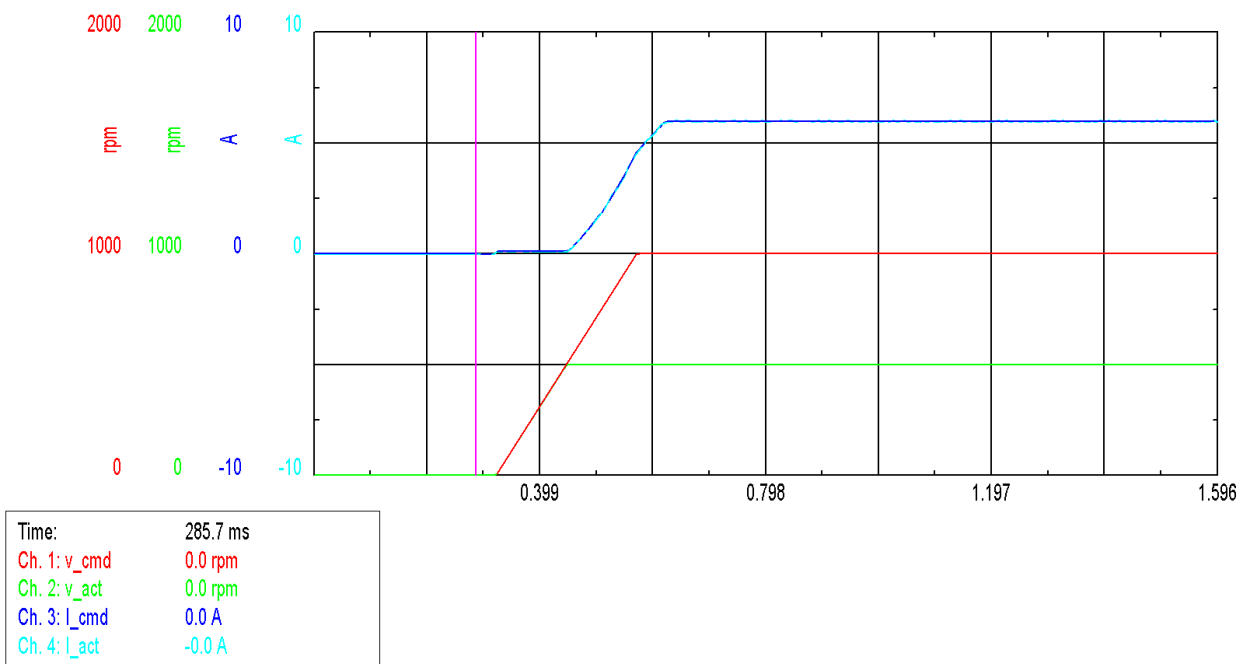
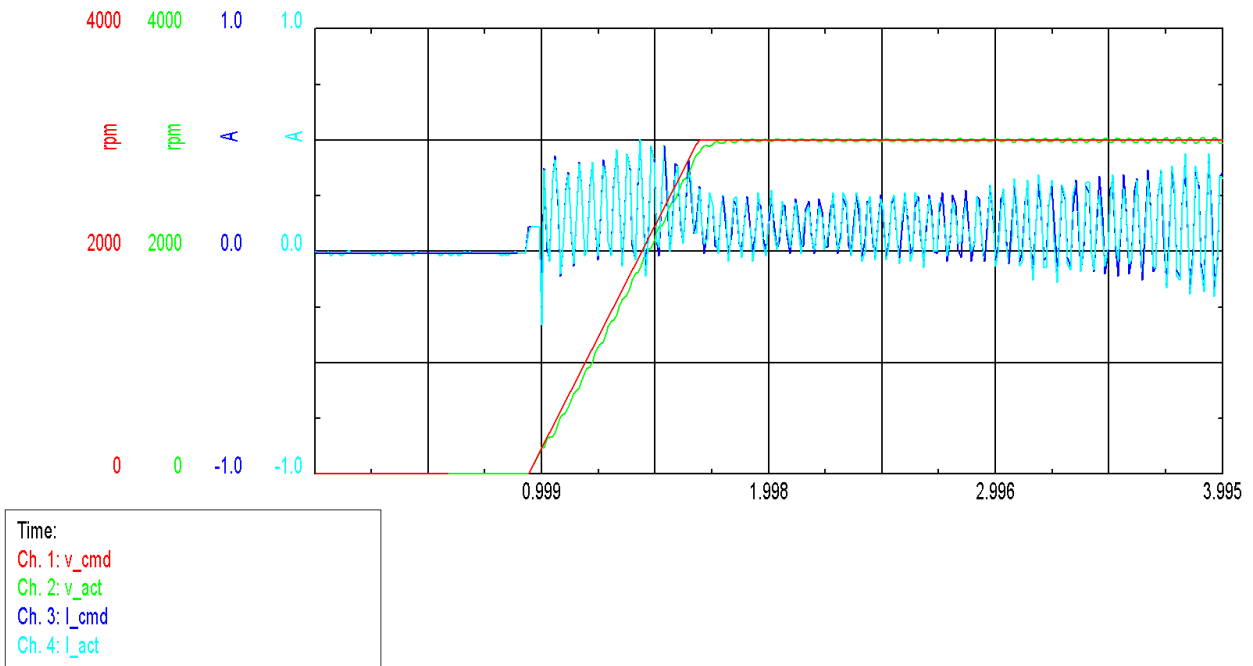
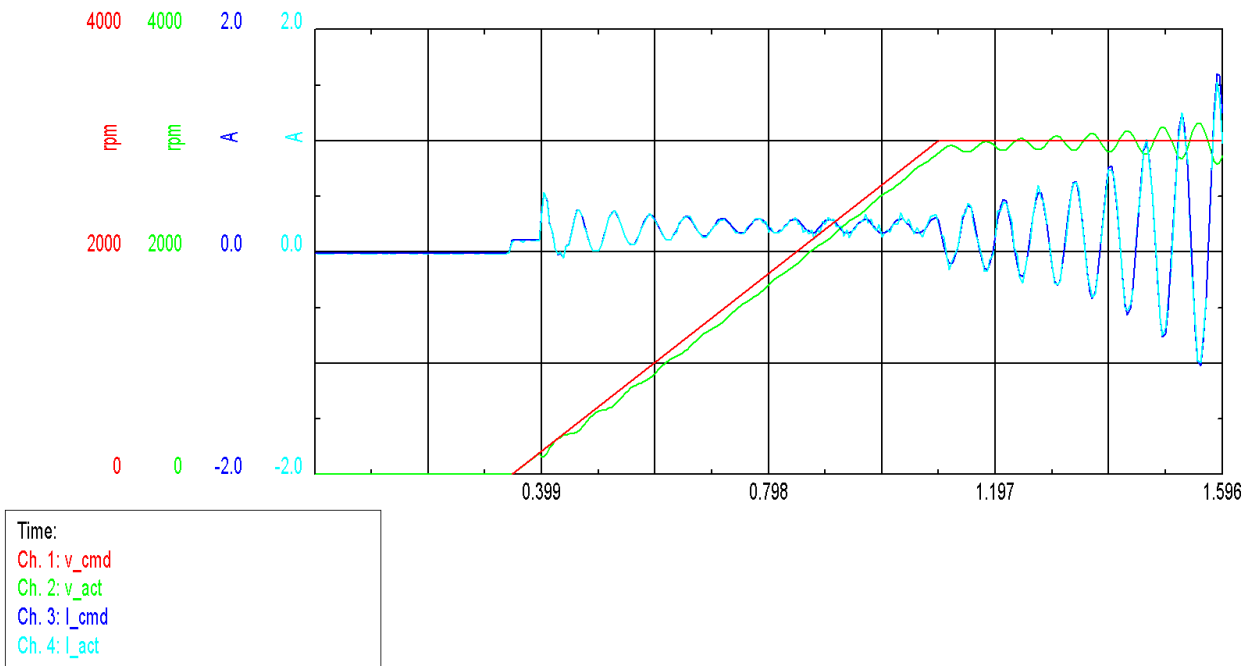

Figure 0.3: Velocity response when SLJSWITCH = 500rpm, SLIDK01 = 0 and J = 1000rpm
Figure 0.15: Velocity and current responses with GVTN = 31.5ms
Figure 0.17: Velocity response and current responses with GVTN = 0.06ms
6. Mostly, sensorless-mode depends of three parameters: SLIDK01, SLIQK & SLIQK1. The range of values SLIDK01 goes from 0 up to 1. Be aware that values close to 1 would generate faults (over speed, commutation error, etc.). While SLIDK01 = 0 does the motor just working on stepper mode until velocity limit SLJSWITCH (See Fig. 0.3). For some applications, it is sufficient to run the drive only in stepper mode. This is one possibility, just set SLJSWITCH=VLIM. But be aware, stepper mode is not a close-loop control. For the beginning set SLIQK & SLIQK1 to zero and start tuning SLIDK01. Set a value of SLIDK01 = 0.1 and if the motor does not move or stop after some seconds (similar to Fig. 0.17) then increase SLIDK01. For SLIDK01 a value between 0.1 and 0.3 is expected to develop a good performance
There is a range of values for GVTN that is on the limits between functional and nonfunctional. In such cases (see Figs. 0.15 - 0.16), the position and velocity will be correctly calculated for some instants and then sensorless get into an oscillation zone and the motor will start to vibrate and eventually lose orientation completely. As mentioned GVTN can be set to 100ms and then start decreasing this value until an acceptable performance is found.
Figs. 0.17 - 0.18 show a similar performance as Figs. 0.15 - 0.16. Also here, the estimated actual velocity is correctly estimated, but the control gets into an oscillation zone and the motor vibrates. Differently to Figs. 0.17 - 0.18 is that